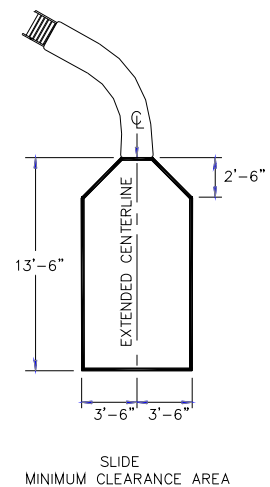

FIG. 3
- A. The minimum clearance distance on either side of the extended centerline of the slide runway shall not be less than three feet six inches (3'-6") at a point no less than two feet six inches (2'-6") from the exit lip of the slide and extending a distance of thirteen feet six inches (13'-6") in front of the slide as shown in **FIG. 3.**
See Article 5 contained in ANSI/NSPI-5 2003 STANDARD FOR RESIDENTIAL INGROUND SWIMMING POOLS and refer to FIGURE 3 and Table 1 for Minimum Water Envelope Dimensions AB, BC and Width at Point C.